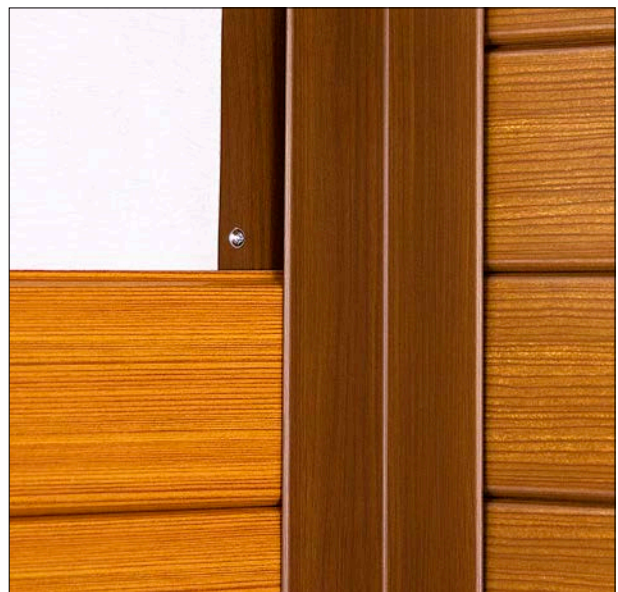

Fig.63
Step 4: Set the standard panels in place and fasten (Fig.63).